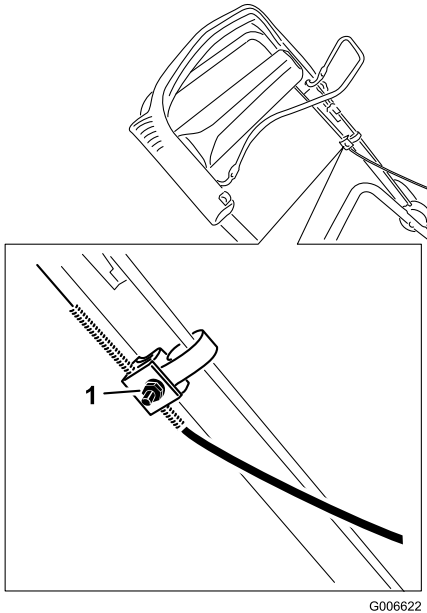

Figure 25
1. Loosen the nut on the cable mount (Figure 25).